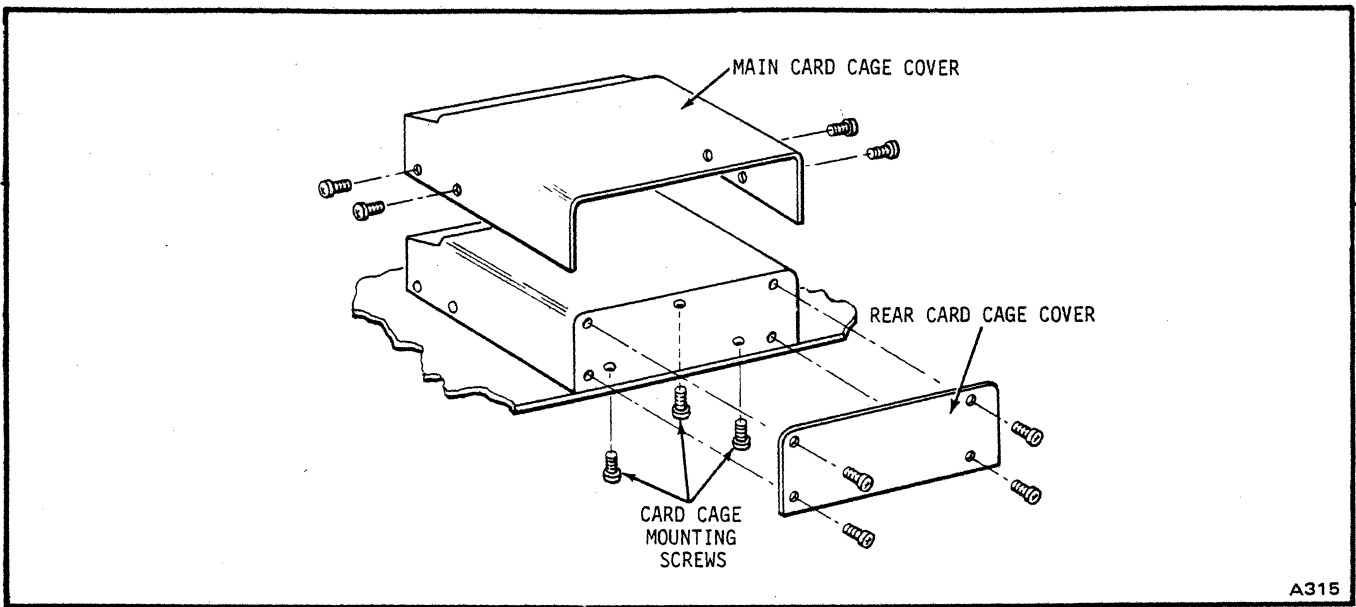

Figure 4-31. Card Cage Covers and Mounting
- b. Remove main card cage cover (Figure 4-31).
- c. Remove rear card cage cover plate (Figure 4-31).